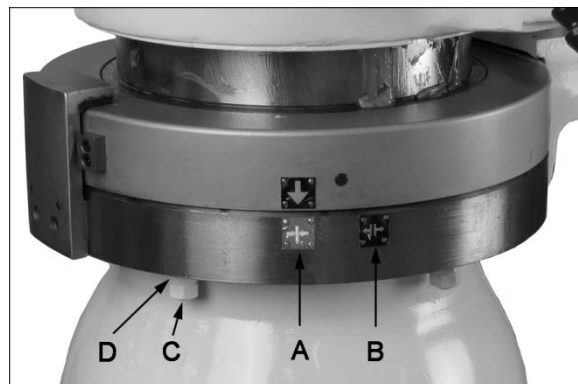

Figure 14
Refer to *Figure 14*.
1. Press and hold the *unlock button* (see *Figure 10*) until the arrow (*Figure 14*) points to "B". Release the button. The clamping device is now disengaged.
2. Loosen the five *locking nuts* (C).
3. Turn the five upper *adjusting nuts* (D) counterclockwise (i.e. tighten them up against the clamping ring) approximately 180°.
4. Re-tighten the five locking nuts (C).
5. Press and hold the *lock button* until the arrow returns to (A). The clamping device is now engaged.